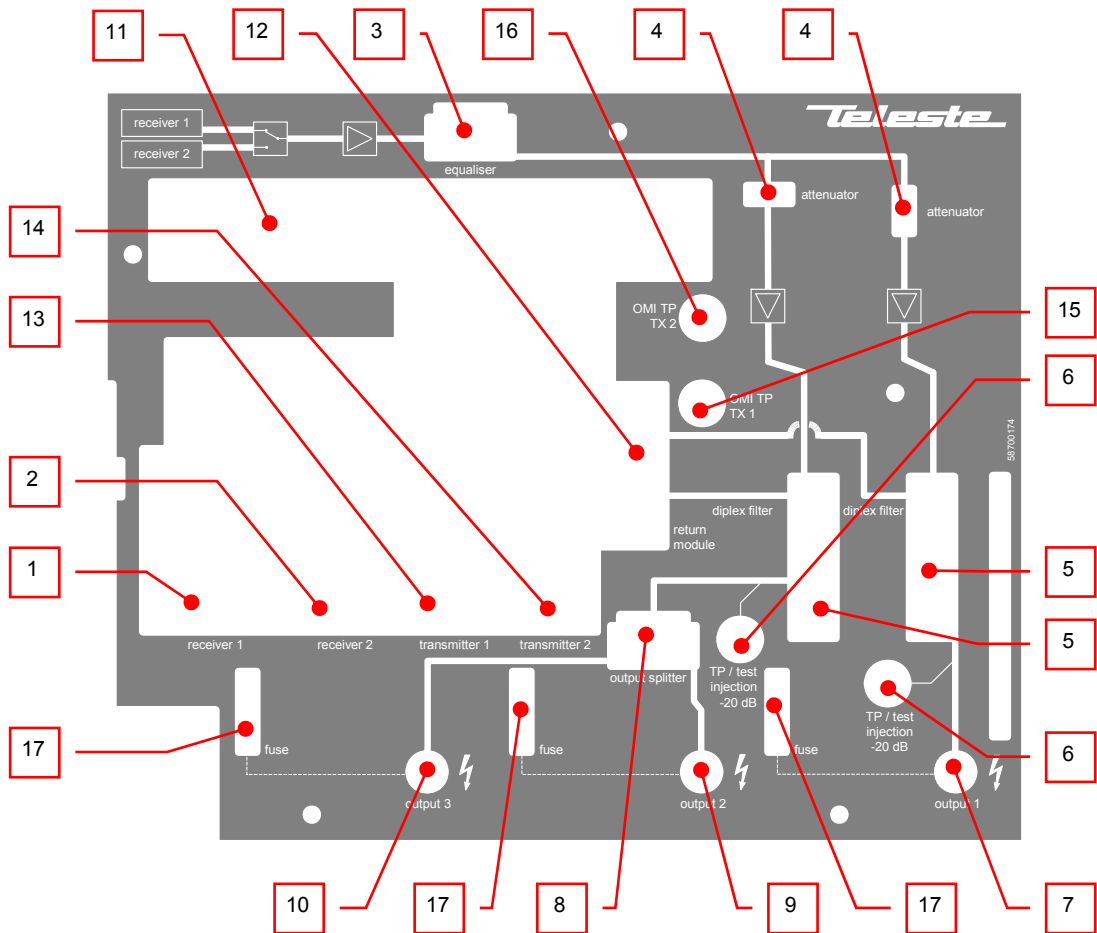
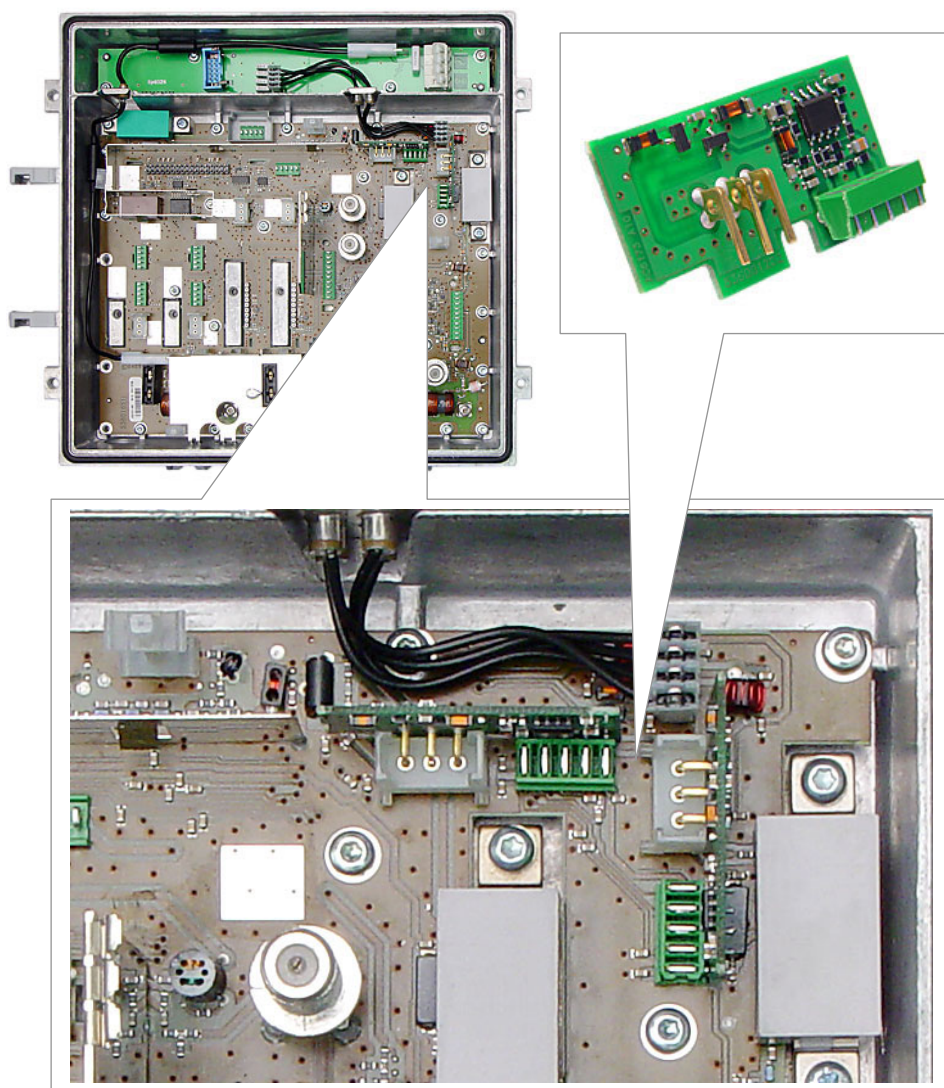

Fig. 11. AC8000 plug-in placement,
Fig. 14. Electrical adjustment module (AC6173)
An electrical adjustment module is placed in the plug-in position for interstage attenuators (Fig. 11 pos. 4). Although the modules are placed in the plug-in position for interstage attenuators, installation is only possible after the removal of the shielding cover. Refer to fig. 14 for locations of the electrical adjustment boards.